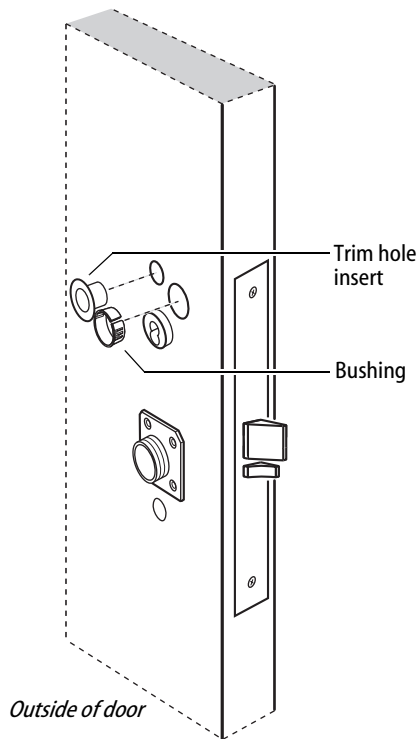

Figure 13 Installing the trim hole insert and bushing
- 1 Insert the trim hole insert into the upper trim hole on the outside of the door, as shown in Figure 13.
- 2 Insert the bushing into the field harness & reader wire hole on the outside of the door, as shown in Figure 13.